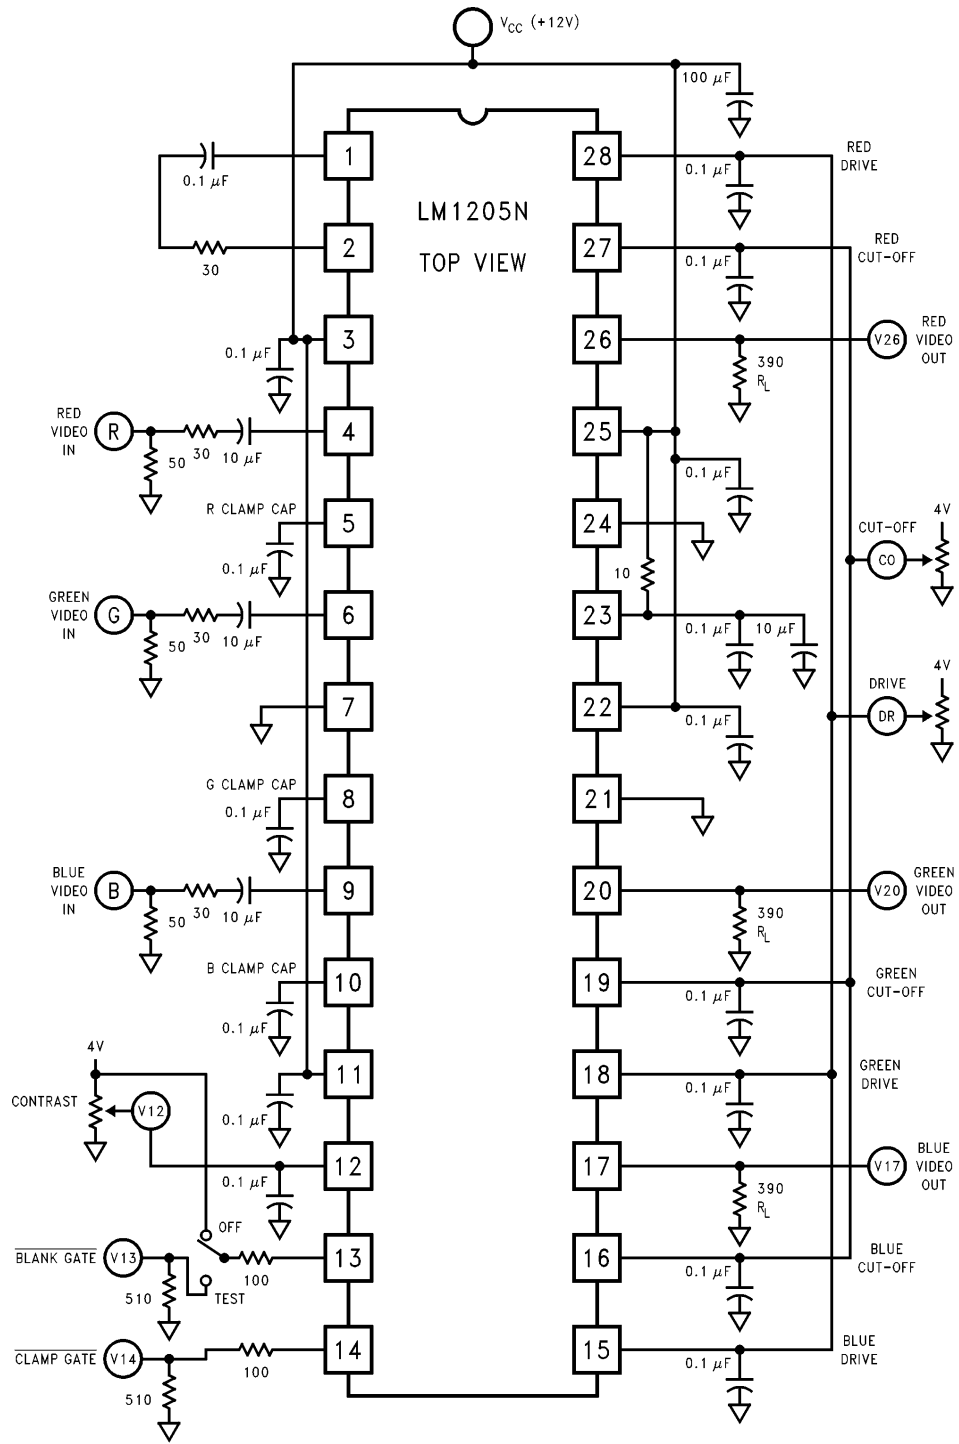

FIGURE 2. LM1205N DC Test Circuit
**DC Electrical Characteristics** See DC Test Circuit (Figure 2),  $T_A = 25^\circ\text{C}$ ;  $V_{CC1} = V_{CC2} = 12V$ ,  $V_{I2} = 4V$ ;  $V_{I4} = 0V$ ;  $V_{\text{cut-off}} = 1.0V$ ;  $V_{I3} = 4V$ ;  $V_{\text{drive}} = 4V$  unless otherwise stated.
**Note 7:** The supply current specified is the quiescent current for  $V_{CC1}$  and  $V_{CC2}$  with  $R_L = \infty$ , see Figure 2's test circuit. The supply current for  $V_{CC2}$  (pin 23) also depends on the output load. With video output at 1V DC, the additional current through  $V_{CC2}$  is 8 mA for Figure 2's test circuit.